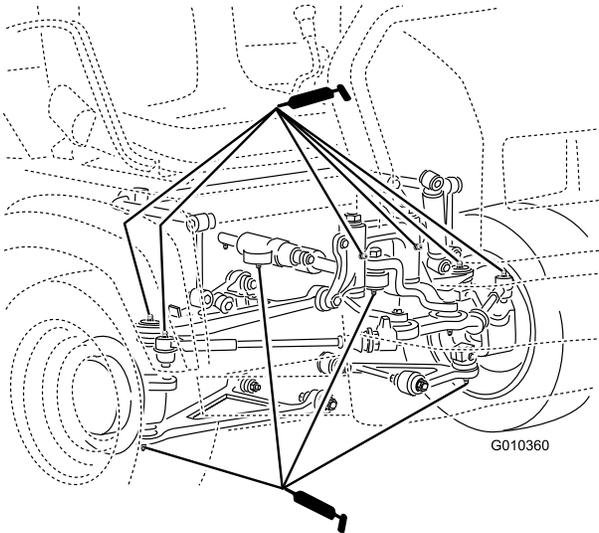

Figure 39
- Ball joints (4), tie rods (2), pivot mounts (2) and steering cylinder (2) as shown in Figure 39